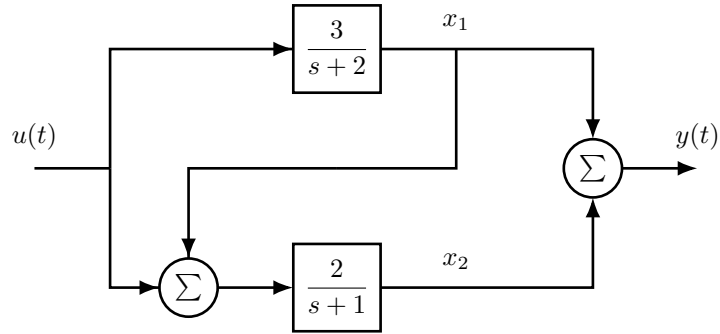

Figure 7: Block diagram for Problem 6.
6. Study the process described by the block diagram in Figure 7. A state-feedback link was created for the process that places the poles in the left half plane with frequency (distance from origin) of $\omega_0 = 6$ rad/s and angle of 45° from the negative real axis. Unfortunately, it became apparent that only some of the system states could be observed. You have now been hired to create a Kalman filter to estimate the states so that the state-feedback link can be used.